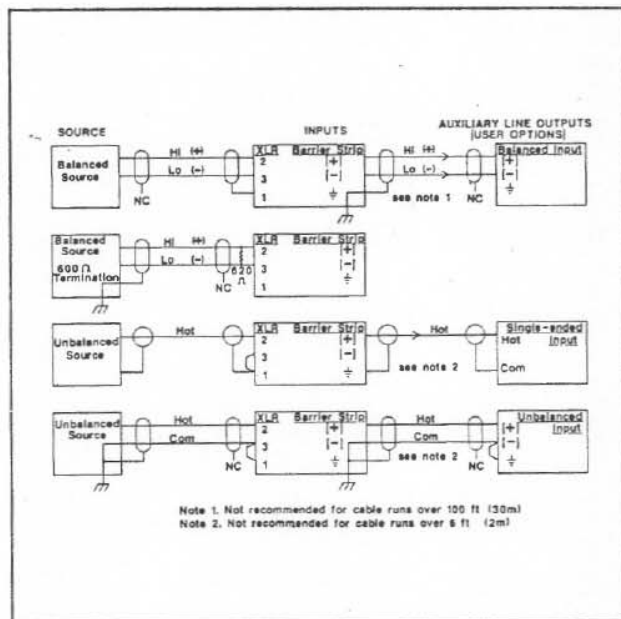

FIGURE 3 — Typical Input Connections
Two conductor shielded low-impedance cable is recommended for input lines to the amplifier input. Pin 2 of the XLR-type connector is high (+), pin 3 is low (-), and pin 1 is ground. The 1/4-inch jack may be used as a low impedance input. Tip is high (+), ring is low (-), and the sleeve is ground. See Figure 3.
In the dual or stereo mode the channels may be operated independently. Before hook-up make sure that the mode switch is in the dual position and that the level controls are down (FCCW). Connect the inputs and outputs (See Figures 3 and 4). Turn the power amp on and slowly increase level until the desired output power is obtained. If either (clip) LED illuminates, reduce the output with the input attenuators or reduce the source signal level.
- b. Verify that the input connections are properly made. See Figure 3, page 4.
- c. Verify that the output connections are properly made. See Figure 3, page 4.